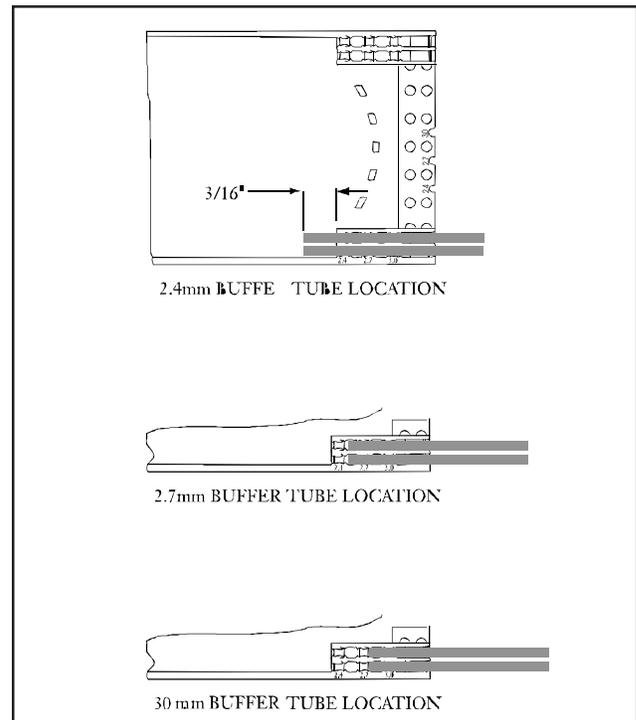

Figure 2
**5.2** Press the very end of the buffer tube into the strain relief position for its size (Figure 2). Do not attempt to force the buffer tube into the smaller space ahead of the position for its size. Doing so could cause it to collapse, damaging the fibers.
**6.1** Strain relieve the tight buffered and Maxi-Bundle® buffer tubes in the center holes of the tray with cable ties (Figure 2). To facilitate tray stacking, make sure cable tie buckles are up or to the side.
**6.2** Corning Cable Systems recommends that buffer tubes be strain relieved at the lower corner of the tray (Figure 2). In some installations, using the lower corner may result in too tight a bend in the buffer tubes (see instructions for that installation). In that case, the upper corner may be used. Place the tray into the closure or shelf to make sure you are using the best location. Route the buffer tubes to the corner of the tray that requires the least bending of the buffer tubes in the closure or shelf.